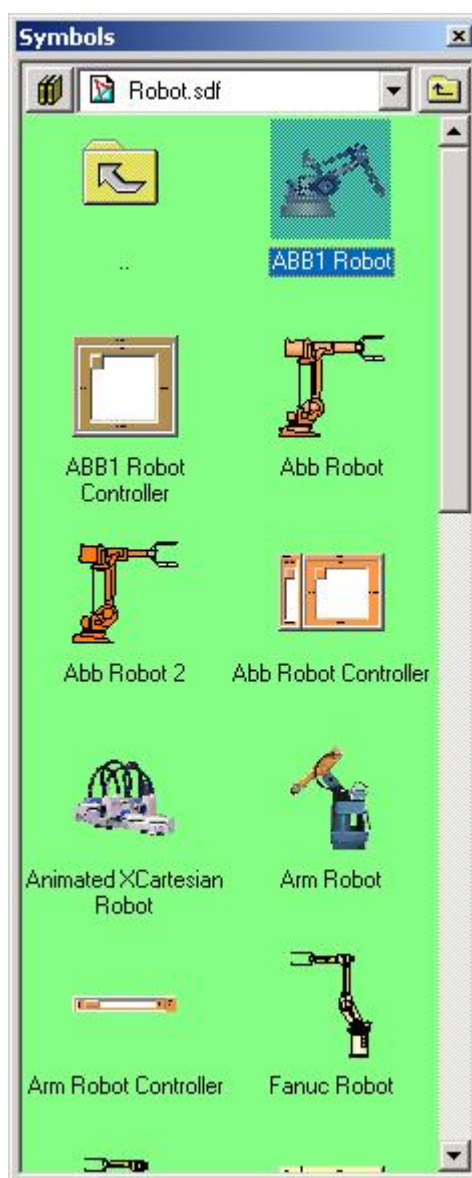

Figure 5.3. Symbols Combo Box
3. The following box will be open. Click on the Combo Box and choose **Automotive > Robot > ABB1 Robot**, shown in **Figure 5.3**.